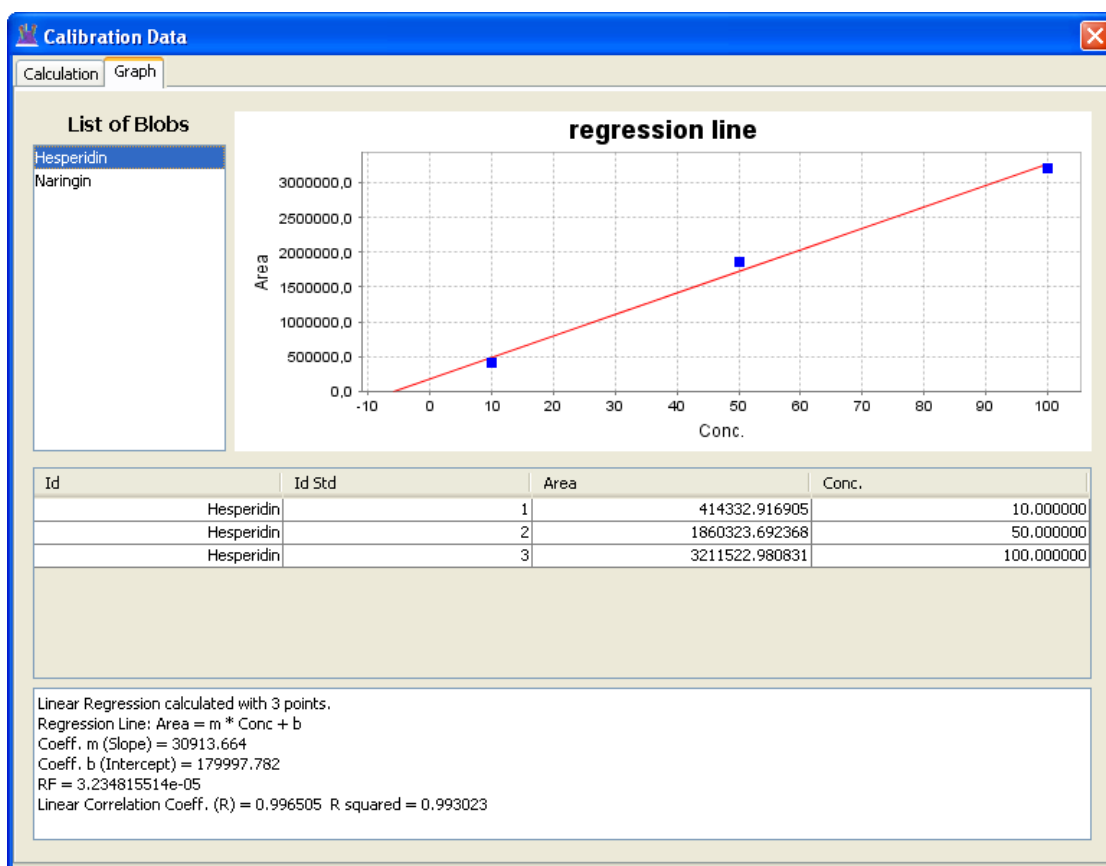

Figure 9.1: The Calibration Graph window
- The Graph page (a sample is shown in Figure 9.1) includes four *panels*: